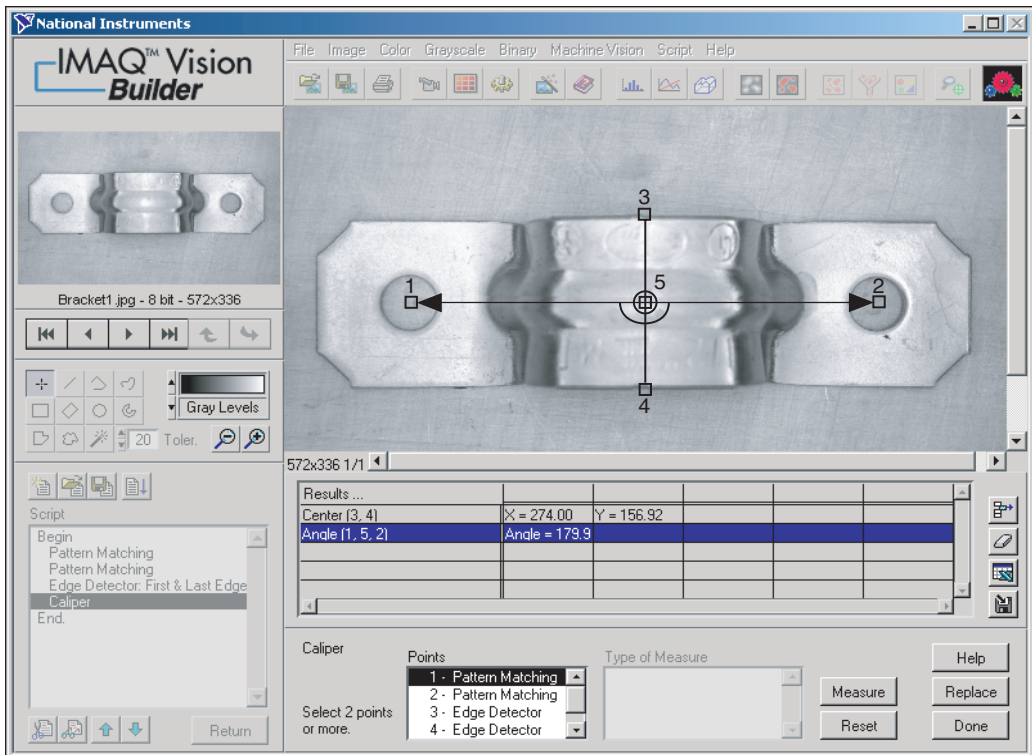

Figure 4-7. Using the Caliper Tool to Collect Measurements
10. Click on points **1**, **5**, and **2** (in that order) to find the third measurement—Bracket Angle—which measures the angle of the bracket's arms with respect to a vertex at point 5, as shown in Figure 4-7.
Figure 4-7 shows the image with Bracket Distance and Bracket Angle selected on the image and displayed in the results table.